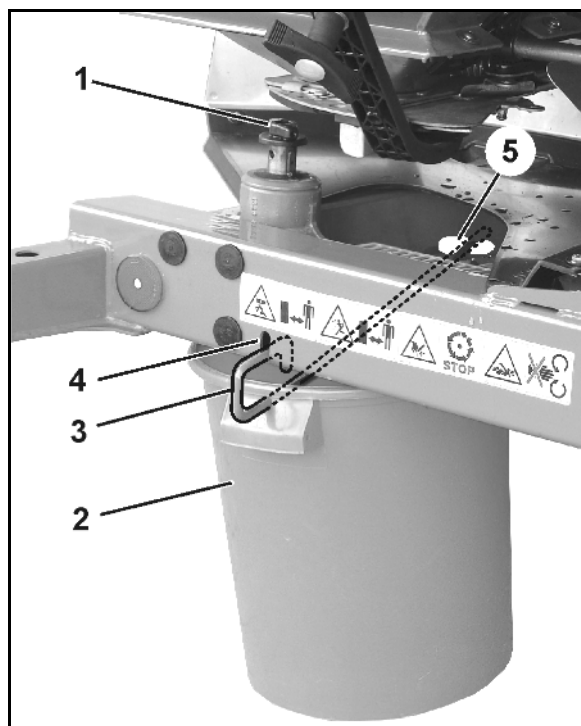

Fig. 60
2. Undo the butterfly nut (Fig. 60/2).
3. Look for the required slider position on the scale (Fig. 60/3).
4. Adjust the read-off edge (Fig. 60/4) of the setting lever pointer (Fig. 60/5) so that it corresponds to the scale value.
5. Retighten the wing nut (Fig. 60/2).